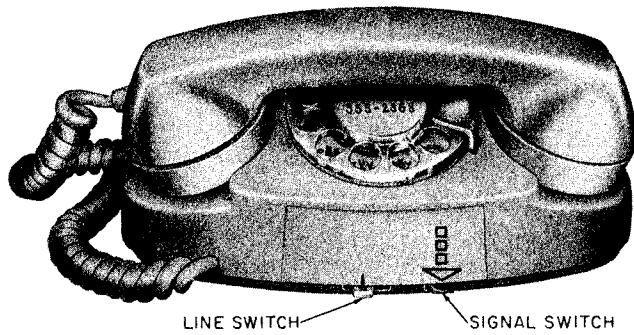

Fig. 5 — 711B (MD) Telephone Set
2.12 The 711B telephone set (Fig. 5) is not equipped with an internal ringer. When a ringer is required, an E1-type external ringer may be used.